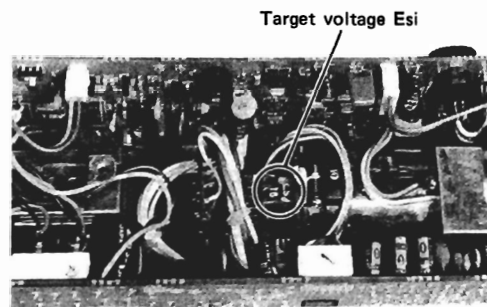

Fig. 6
- Adjust TARGET VR202 so that the voltage at TP3 is equal to the Esj value stamped on the Newvicon neck. (Fig. 6)